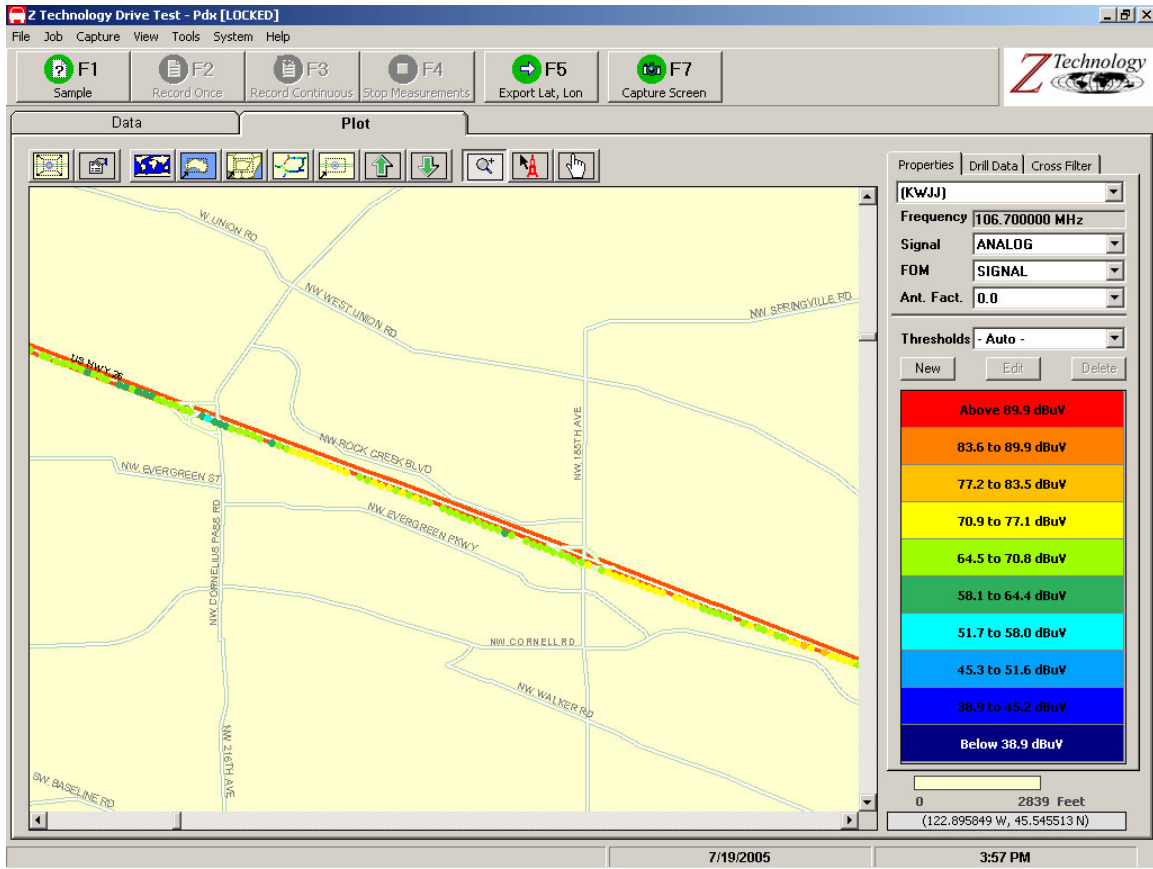

Figure 6: Plot Screen
- Click on the **Record Continuous** button then drive a short distance while recording, then pull off the road in a safe location. Click the **Stop Measurements** button, and then click on the **Plot** tab. A plot screen similar to the screen below in Figure 6 appears. It shows a colored dot trail over the road or region that was driven.